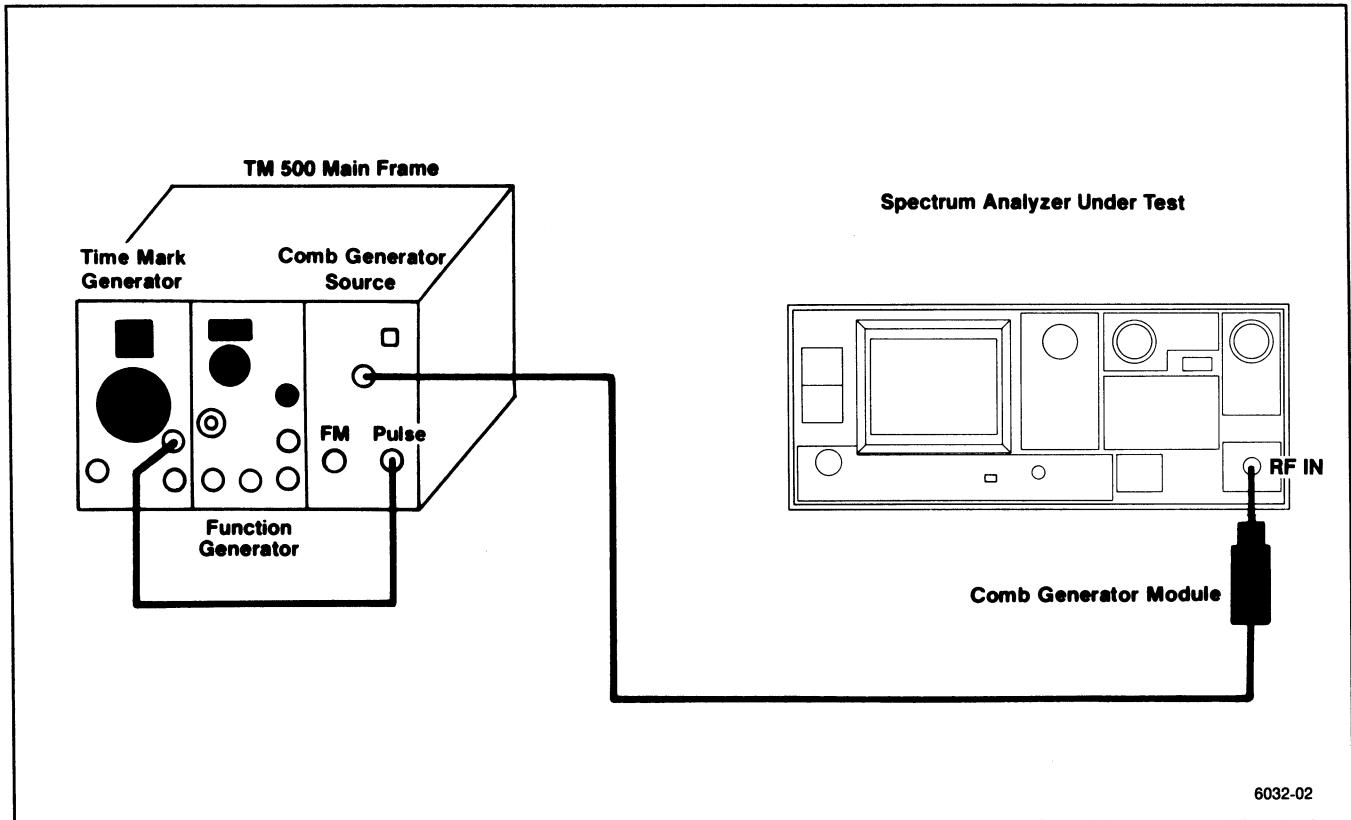

Figure 4-8. Test equipment setup for checking frequency Span/Div and sweep Time/Div accuracy.
c. Remove the CAL OUT signal from the RF INPUT and set up the test equipment as shown in Figure 4-8. Set the FREQUENCY to 10 GHz, (band 4, 5.4 to 18 GHz) FREQ SPAN/DIV to 500 MHz, RESOLUTION BANDWIDTH to 100 kHz, and REF LEVEL to -10 dBm. Peak the response with the MANUAL PEAK control and set REF LEVEL for the best marker definition. It may also help to reset the CENTER FREQUENCY for better marker definition.
f. Modulate the Comb Generator signal with 10 us markers, from the Time Mark Generator, by applying the Marker Output to the Pulse Input of the Comb Generator as shown in Figure 4-8. Set the MANUAL PEAK control for optimum marker definition.